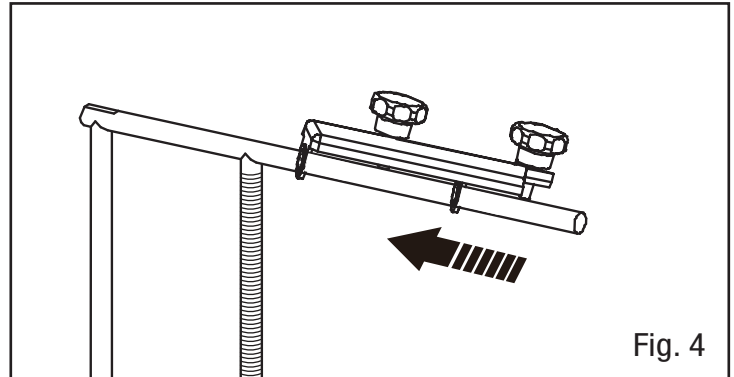

Fig. 4
1. To install the square edge jig, slide the square edge jig onto the work support arm (Fig. 4).